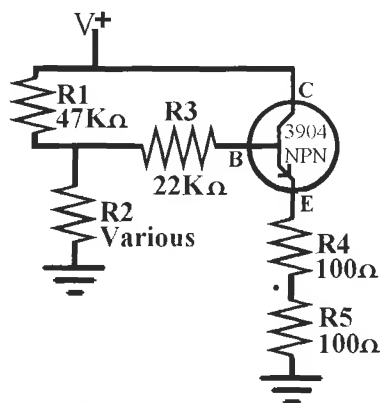
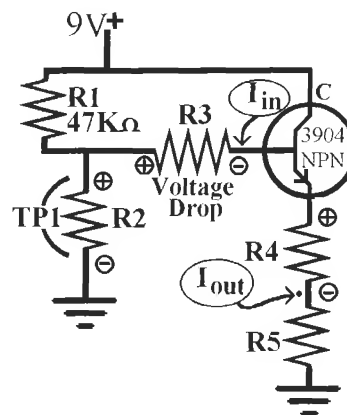

Figure L47-1
Figure L47-2
Set up a modified version of the night light circuit. The schematic in Figure L47-1 shows a few changes needed to calculate the gain of the NPN 3904 transistor.
4. In Figure L47-2, R4 and R5 make a voltage divider. Measuring the voltage drop across R4 makes it an easy task to calculate the current available at the emitter (output).
6. Now, using the schematic in Figure L47-2, use the values shown for R2. R2 is the only resistor that changes values. R3 keeps the 22 k $\Omega$  value shown in Figure L47-1 (see Table L47-3).